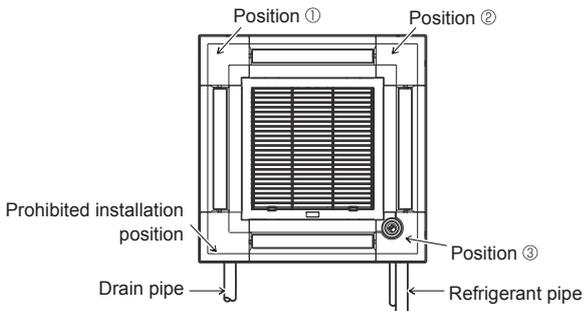

Fig. 10
- The i-see Sensor corner panel should be fixed onto the grille ① with screw ③.
- * If the position of the i-see Sensor was changed from default position (Position ③) to the other position, change the function settings. (Refer to Fig. 10)
- The i-see Sensor corner panel can not installed on the drain pipe side for the main unit. (Refer to Fig. 10)